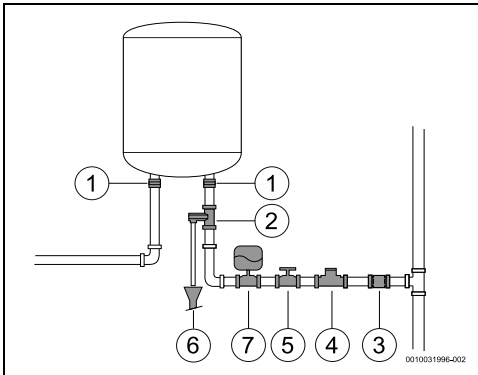

Fig. 13
- ▶ Close the water shut-off valve (→ Fig. 13, [5]).
- ▶ install a reduce valve (Fig. 13, [4]). The pressure relief valve is always triggered once the water pressure in the tank exceeds 8 bar (± 1 bar), and the discharge water then needs to be channelled off.
- ▶ install an expansion vessel (Fig. 13, [7]) to avoid opening the pressure relief valve so frequently. The volume of the expansion vessel must be equivalent to 5% of the appliance volume.